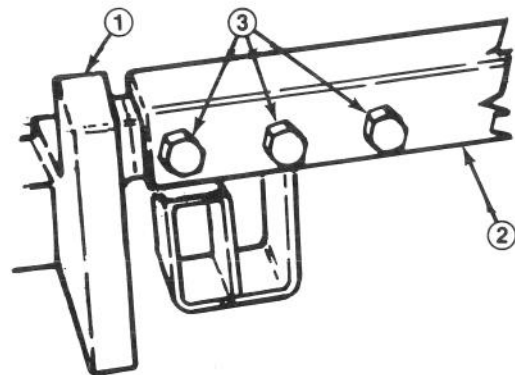

Figure 4
5. Slide carrier frame onto lift arms aligning mounting holes. Secure each side of carrier frame to lift arms with (3) 1/2 - 13 x 1-1/2" lg. capscrews. Torque capscrews to 70-80 ft-lb (Fig. 4).